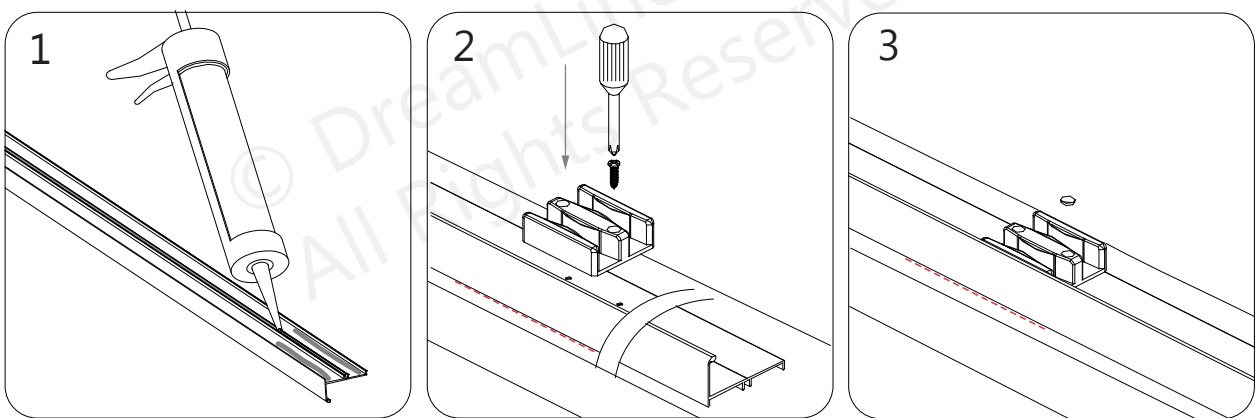

Fig 7
7. Apply silicone to the bottom surface of the **Bottom Guide Rail (#15)** and place it back into position on the threshold. Attach the **Guide Block (#05)** and **Bottom Guide Rail (#15)** to the threshold using two of the **ST4.2 x16 Screws (#12)** and cover the screw holes with the decorative caps. (**Fig 7**)